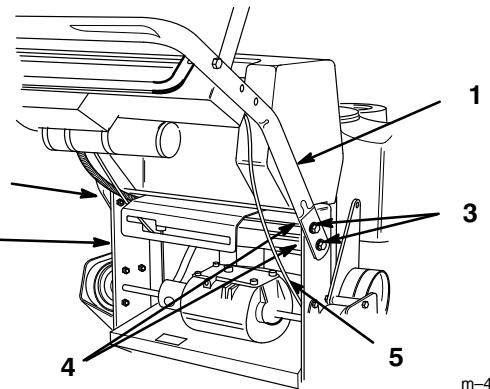

Figure 4
- Secure each side with (2) 3/8-16 x 1" (26mm) flange bolts and flange nuts (Fig. 4). Torque bolts to 25 ft. lbs. (34 N.m).
- Route cables and wire harness inside of frame (Fig. 4). Secure wires and cable to handle with wire tie.